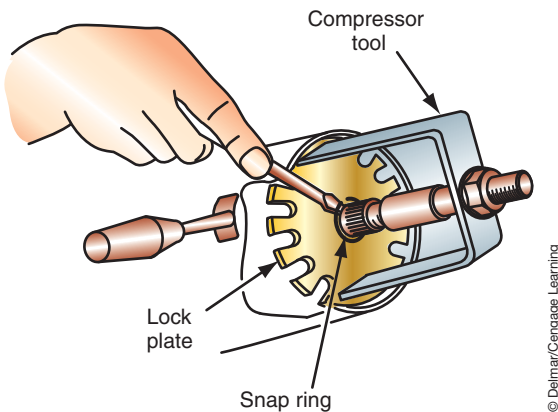

FIGURE 8-35 To remove the snap ring, use the compressing tool to relieve the pressure against the snap ring.
7. If needed, use a suitable compressor to compress the preload spring to the lock plate (Figure 8-35). Compress the spring only enough to remove the snap ring.